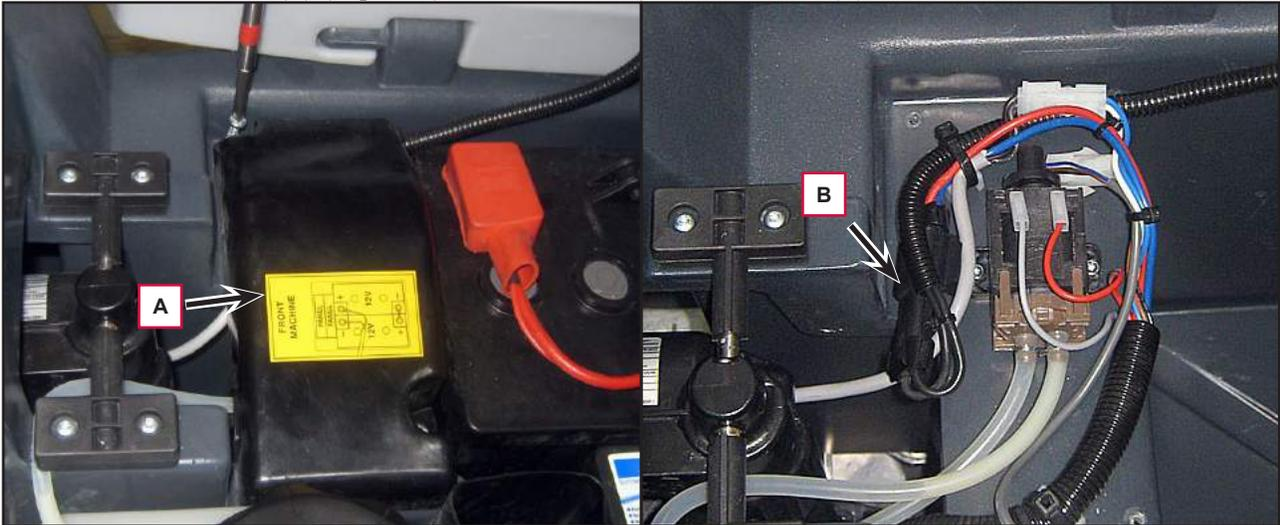

Figure 6
4. Remove the cover (A) (Figure 6), then disconnect the connector (B).